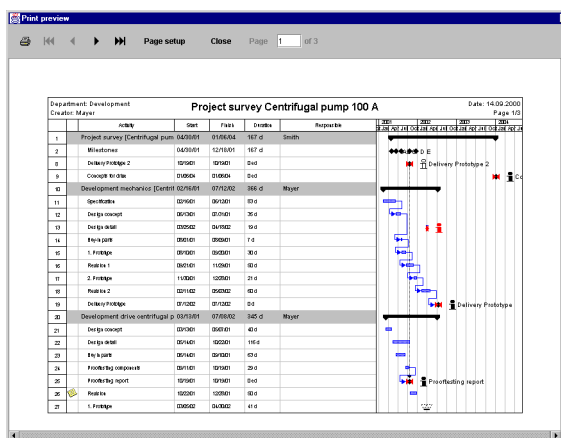

Figure 96: Page preview in RPlan Java
1. Choose the menu items Edit → Print and respond to the Save prompt. You are now shown a print preview for your print job. Navigate through the print preview and check whether the layout is in accordance with your wishes (Figure 96).